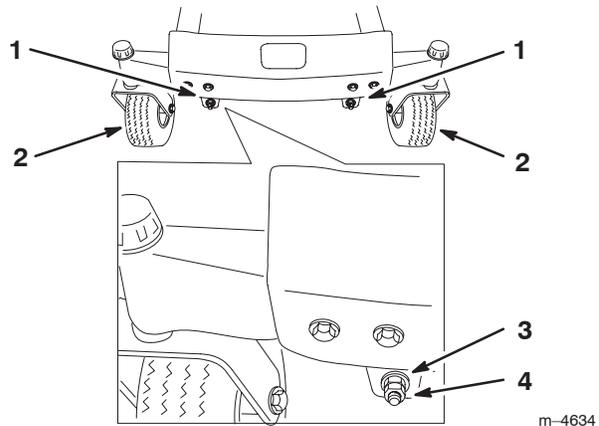

Figure 42
- To adjust the front-to-rear blade slope, remove the locknuts and then rotate the adjustment nuts in the front of the mower (Fig. 42).
- After adjusting both adjustment nuts evenly, check the front-to-rear slope again. Continue adjusting the nuts until the front blade tip is 1/16–5/16 inch (1.6–7.9 mm) lower than the rear blade tip (Fig. 42).
Note: After adjusting the adjustment nuts, make sure there is **no slack** in either support rod (Fig. 44). Tighten either one to remove the slack (Fig. 42).